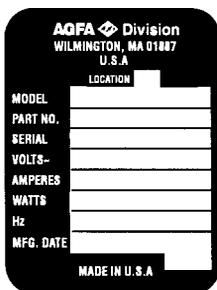

Figure 2.1. Serial Number Tag
- Step 1: Make sure that the wall current matches the power specifications stated on the film recorder's serial number tag. See Figure 2.1.